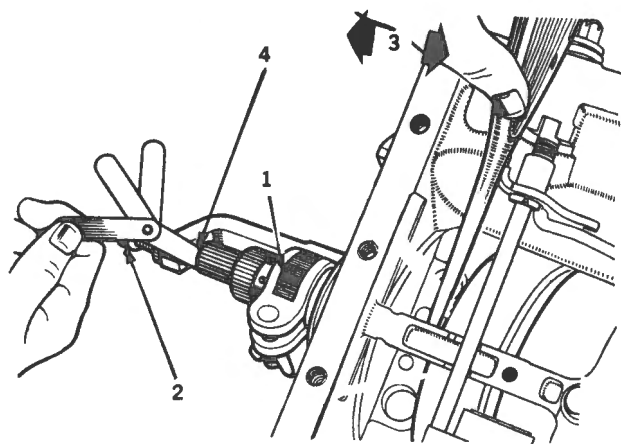

Fig. M-66
Prior to dismantling the main drive line components of the transmission, check and record the input shaft end float using service tool BWA33. Checking Refer Fig. M-66.
- 8 Lever the clutch back using light pressure and measure the gap produced between the tool and the end of the shaft, it should be between 0.25 to 0.76 mm (0.010 to 0.030 in). If the gap is excessive fit new thrust washer (4). Fig. M-66.